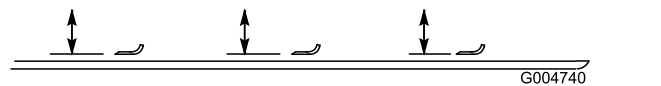

Figure 111
- Rotate the blade until the ends face forward and backward and measure from the inside of the mower deck to the cutting edge at the front of the blade (Figure 111).